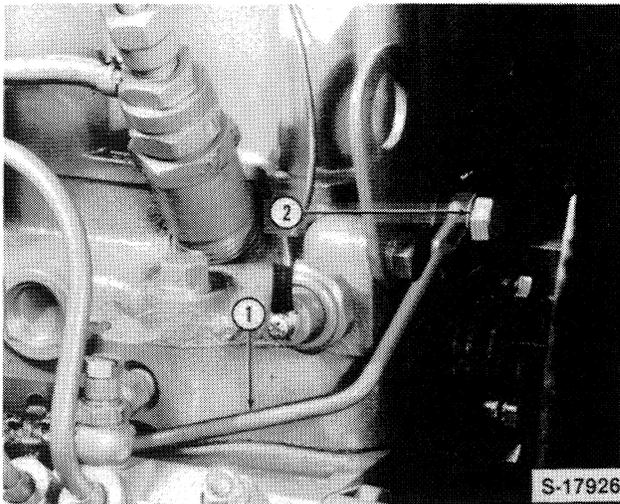

Figure 10
- 12. **Model 1310 only:** Remove the external oil transfer tube bolt from the front of the cylinder head, Figure 10.